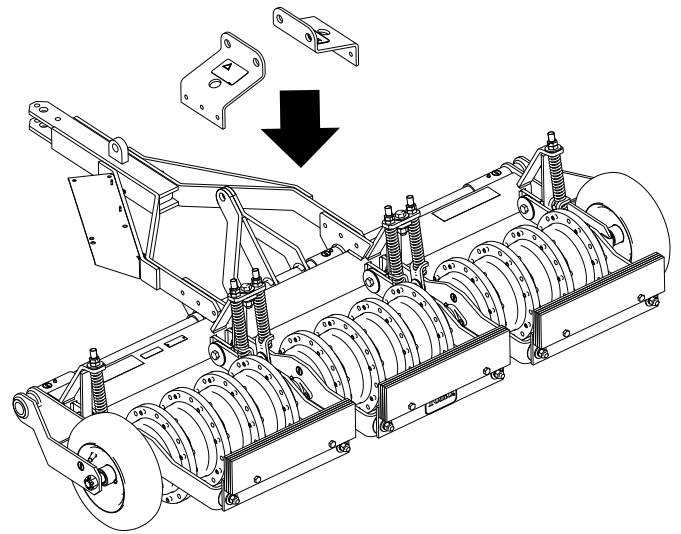

Figure 6
3. Align the brackets on the aerator as shown in Figure 6.